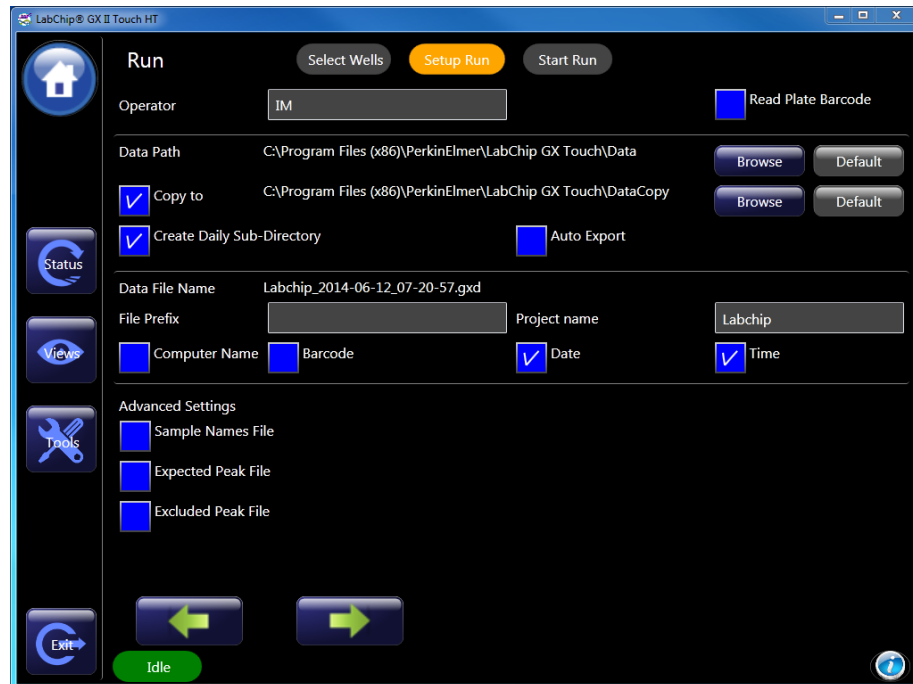

Figure 12. Run setup screen.
- 3 In the *Setup Run* tab, select the operator name, the option to read barcode, the destination of the file, the inclusion of sample names, expected peaks, and excluded peaks and the filename convention. Select *Auto Export* to export results tables automatically (Figure 12). Touch the green arrow button.